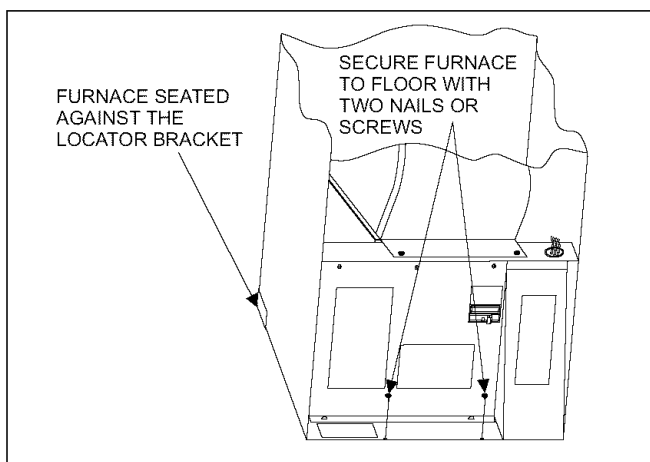

FIGURE 10 : INSTALLATION OF FURNACE
2. Secure the front of the furnace with two screws at the mounting holes provided. See Figure 10.